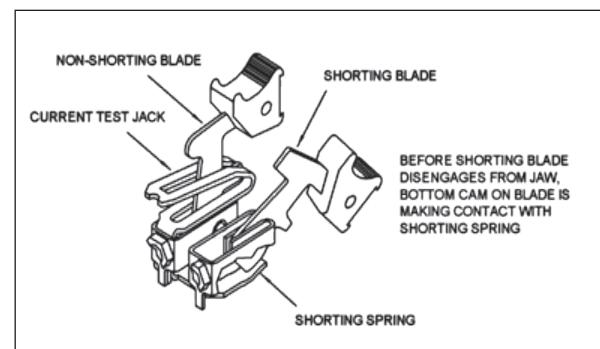

Figure 2. Blade assembly of 2 position pole "C-C"
Potential poles (P) are configured as single, non-shorting knife blades for use in potential, trip, or control circuits. Current poles are typically configured in sets of two (C-C), for use with current circuits, and consist of a current test jack, a shorting spring, a shorting blade, and a non-shorting blade (see Figure 2). The positions of the short circuit springs are always visible from the front of the switch.